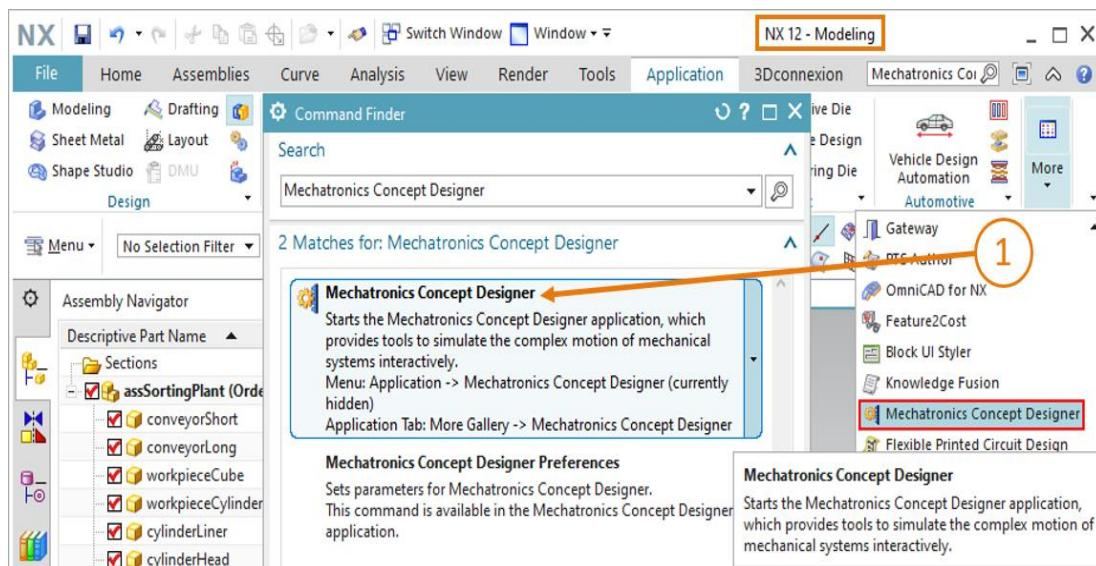

Figure 7: Opening MCD in NX
- Once the assembly has opened, you should see the image of the sorting plant in the three-dimensional graphics window. You can see in the header of the program that the NX "Modeling" application is still active (see Figure 7, orange frame). For dynamization of the sorting plant, you need to change to the "**Mechatronics Concept Designer**" application. Search for this add-on in the Command Finder and confirm the change of application with a click (see Figure 7, step 1).